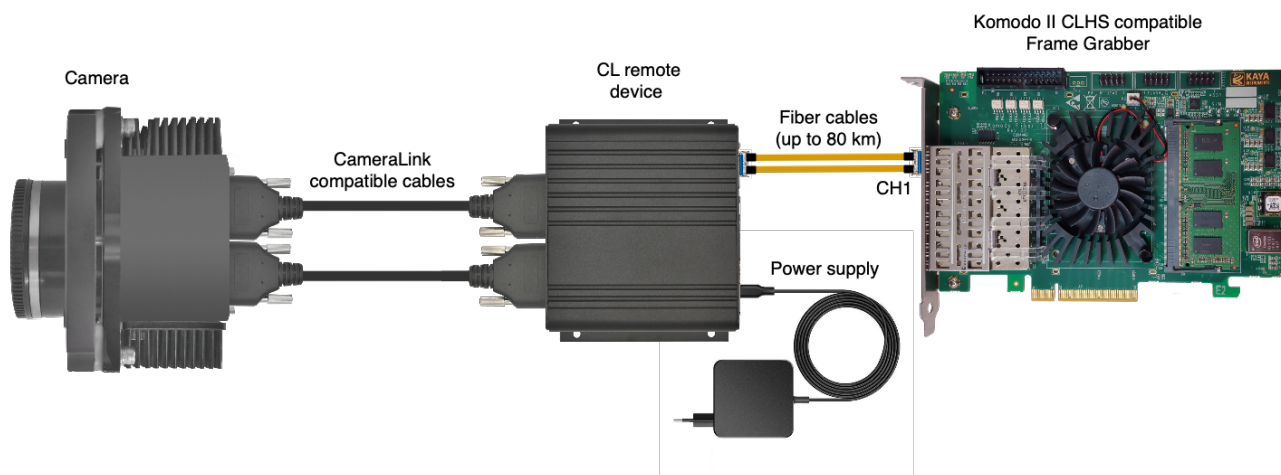

Figure 4 – KY-EXT-CL connection diagram
The typical FXCL II Acquisition **system** is connected as described in Figure 4:
3. The power supply connector of the KY-CL2F-D unit shown in Figure 4.